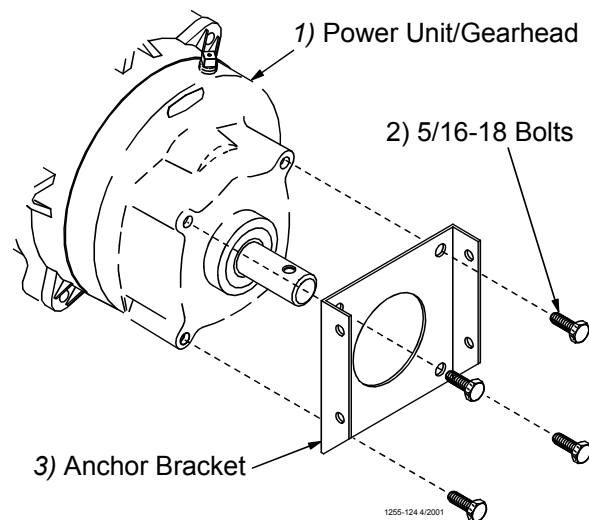

Figure 34. Assemble the Anchor Bracket to the Power Unit/Gearhead
3. Install the Anchor Bracket to the Power Unit/Gearhead, as shown in **Figure 34.**, with the included 5/16-18 Bolts.